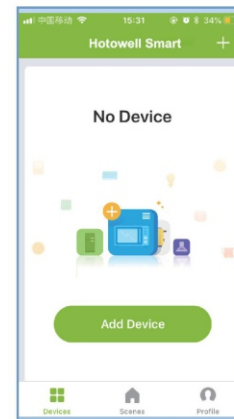

fig 3.1
- Press the “+” on the upper right corner of the page (see Fig 3.1) or “Add Device” to add “Thermostat”.